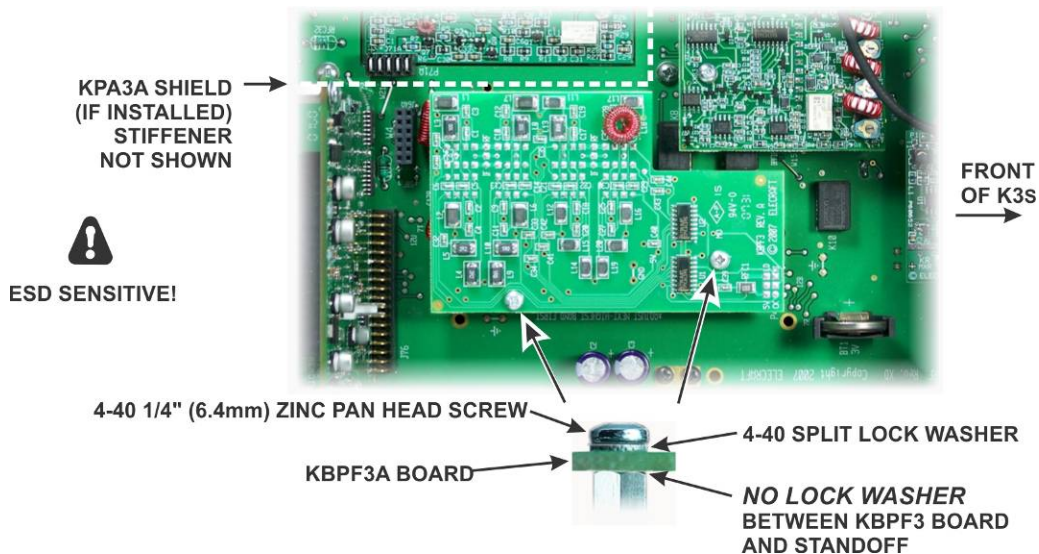

Figure 94. Installing the KBPF3A Option Board.
- Install the board on the standoffs you installed earlier as shown in Figure 94. The screws and lock washers needed are supplied with your KBPF3A Option kit. There are three connectors on the bottom of the KBPF3A board that must be properly mated to P44A, P44C and P44E on the RF board. Even though the connectors are hard to see if they KPA3A shield is installed, they can be aligned as follows: